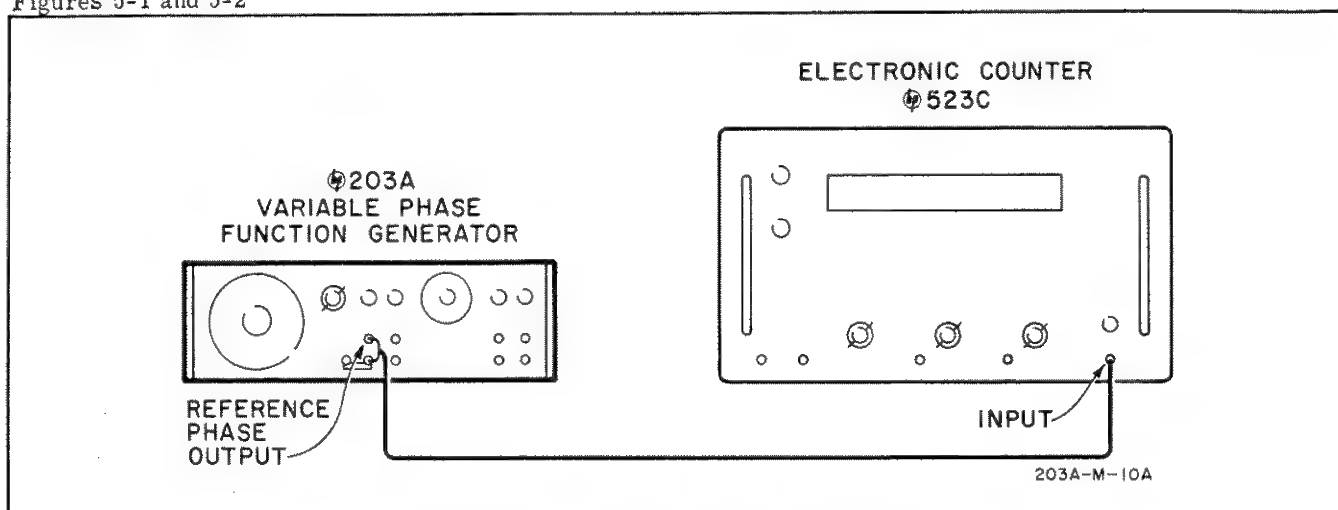

Figure 5-1. Frequency Dial Calibration
d. Connect Model 203A as shown in figure 5-1.
- Connect Model 203A as shown in figure 5-1.